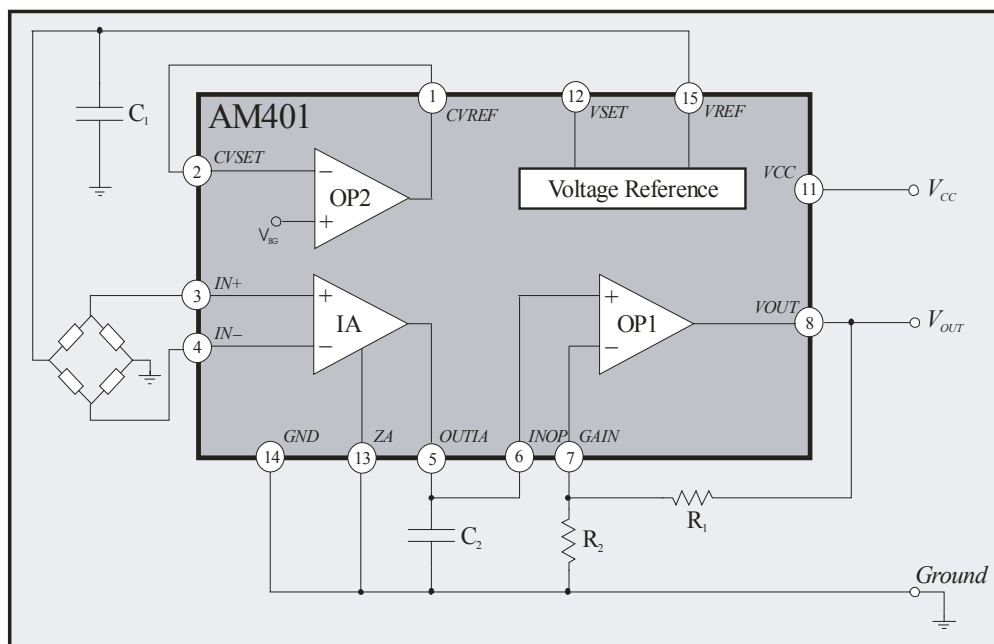

Figure 3: AM401 used as an industrial bridge amplifier
2. All of the AM401 function blocks not used by the application (e.g. OP2) must be connected up to a defined (and permitted) potential. Unused blocks, such as the additional operational amplifier (see Figure 3), must be configured. The two capacitances C_1 and C_2 must be connected up in any event, even if the reference voltage source is not used.